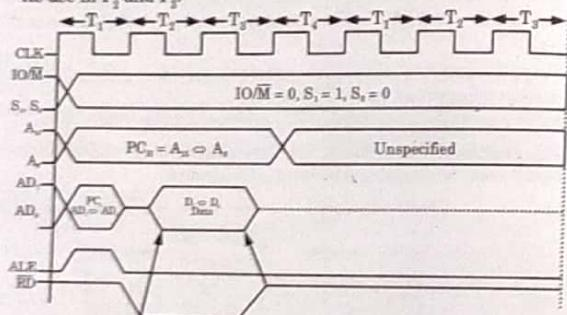
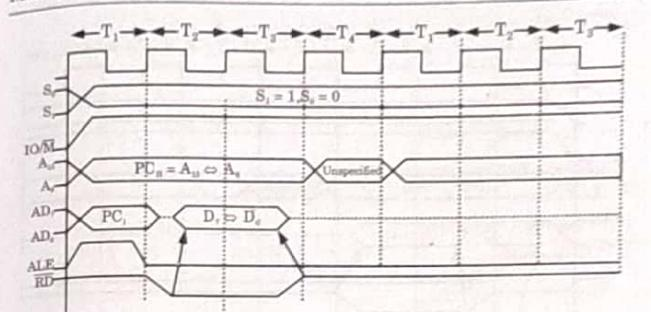

Fig. 2.8.1. Memory read timing diagram.
Fig. 2.8.2. I/O read timing diagram.
2. The timing diagram for  $IO/\bar{M}$  read are shown in Fig. 2.8.1 and Fig. 2.8.2.  $A_{15} \leftrightarrow A_8$  remains valid in  $T_1$ ,  $T_2$  and  $T_3$  i.e., duration of the bus cycle, but  $AD_7 \leftrightarrow AD_0$  remains valid only in  $T_1$ .